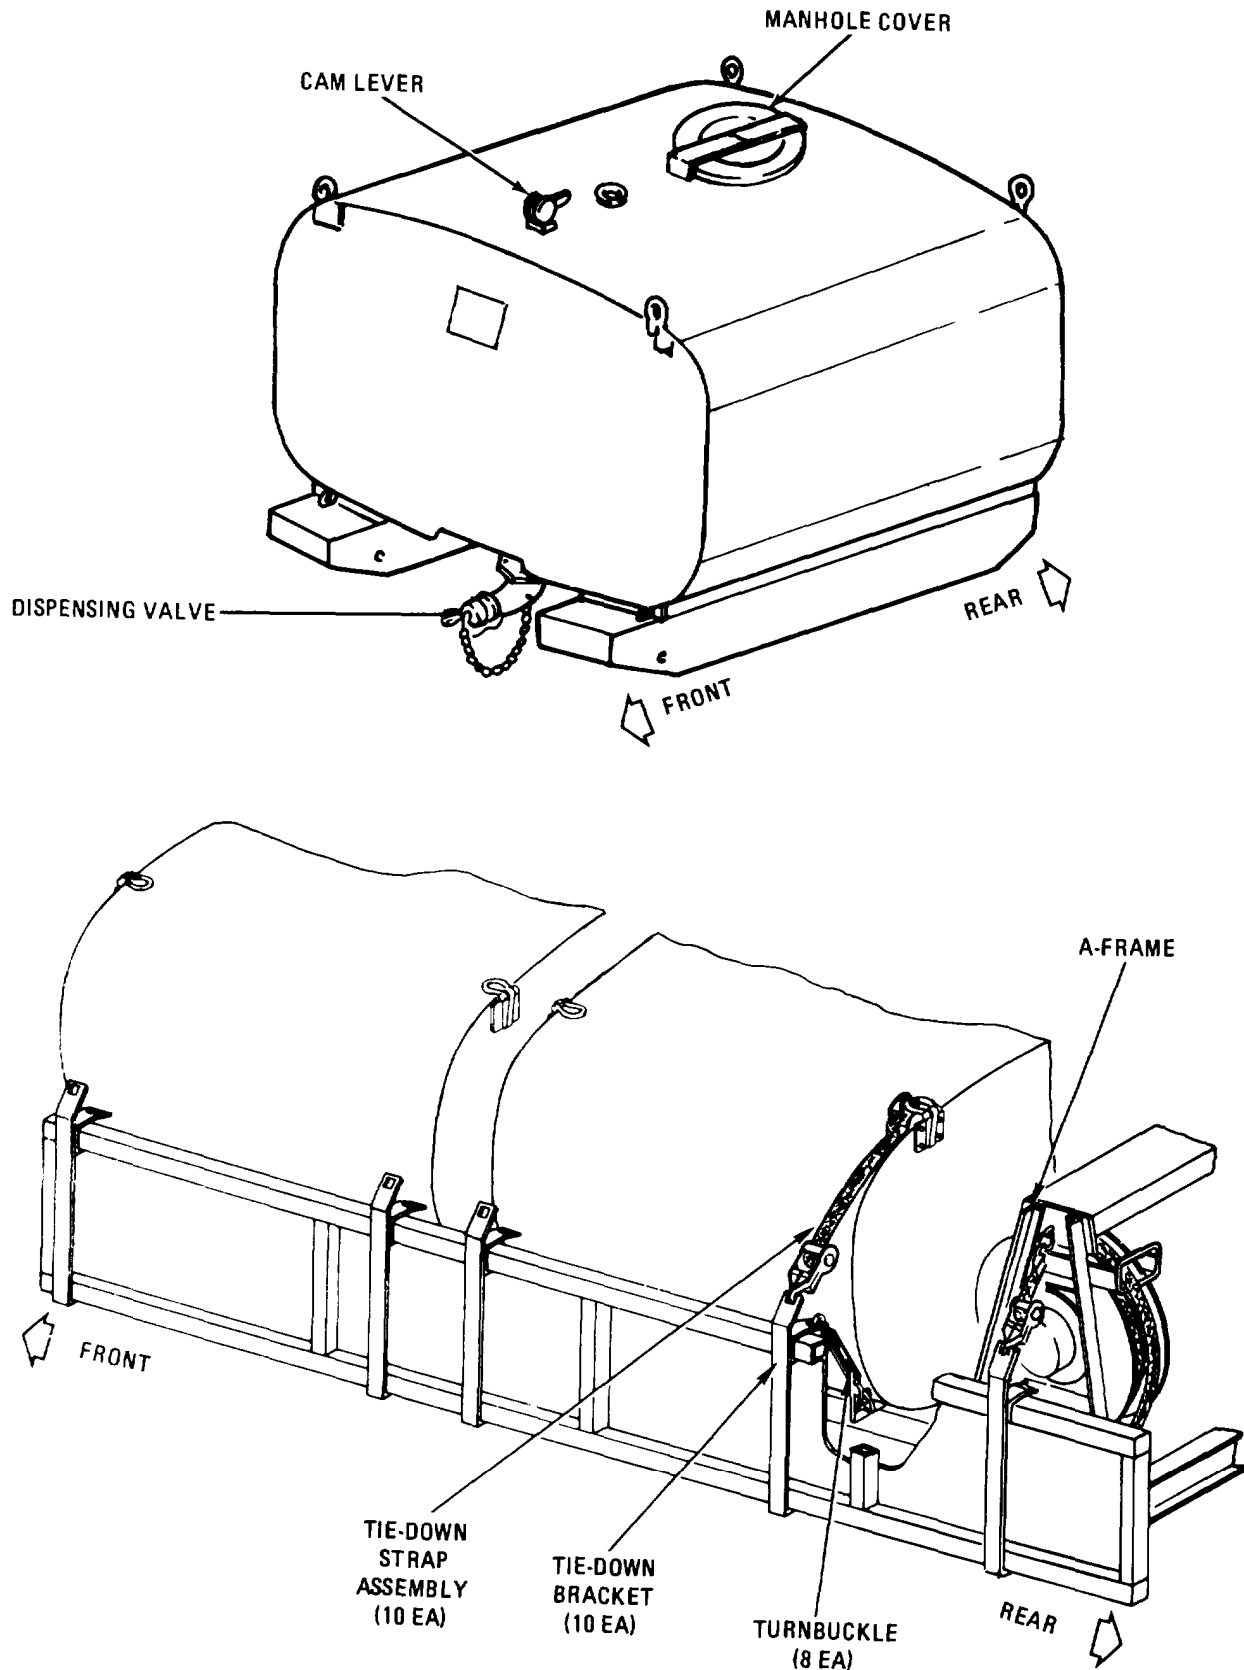

Figure 3-5. Tank Assembly.
a. Tiedown straps and turnbuckles are used to secure the tanks (figure 3-5) to the transporting vehicle.
- (1) Inspect tanks for missing or damaged lifting shackles and tiedown hardware.
- (2) Install or replace missing or damaged hardware.
- (3) Tighten loose tiedown straps and turnbuckle.